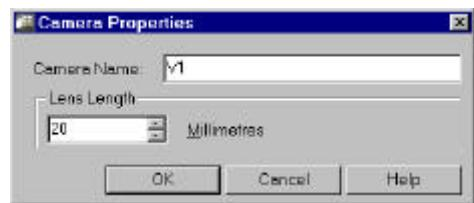

Figure 7. The Camera Properties dialog box.
39. A Camera Properties dialog box appears (Figure 7): Enter the name of this camera such as "V1", enter the lens size in millimeters, ; A lens size of "20" mm is recommended for interior views. AutoCAD camera